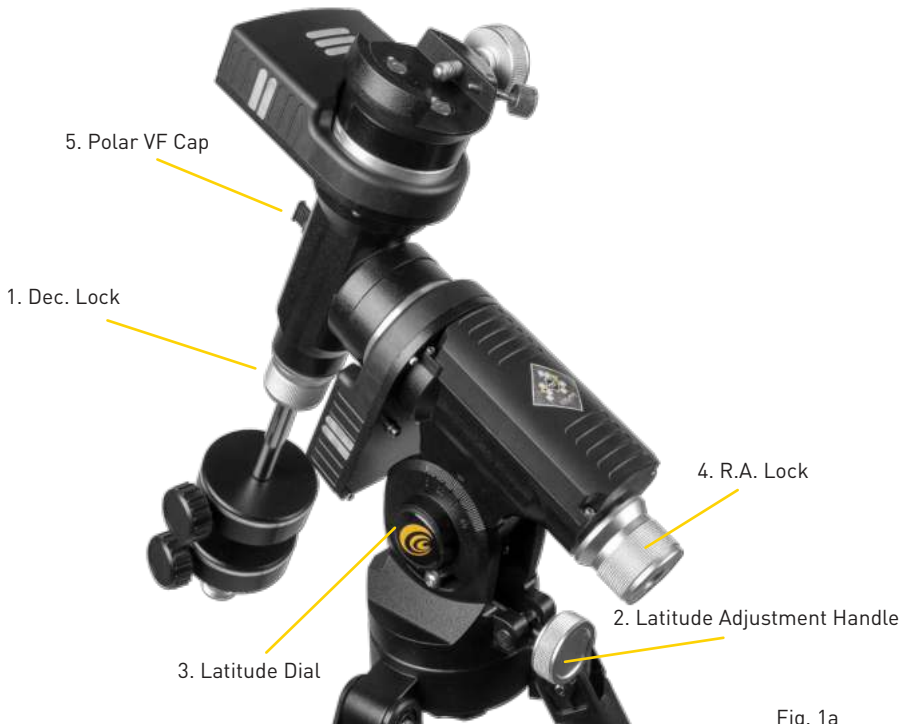

Fig. 1a
- Unlock the R.A. Lock [4, Fig. 1a] Rotate the Optical Tube Assembly until the counterweight shaft is pointing straight down over the mount.
- If you have not already done so, lift the telescope assembly and turn it so that the tripod leg beneath the counterweight rod faces approximately North (South in the Southern Hemisphere). Release the Dec. lock [1, Fig. 1a] of the tripod, so that the optical tube may be rotated. Rotate the optical tube until it points North (or South in the Southern Hemisphere). Then re-tighten the lock. Locate Polaris, the North Star, if necessary, to use as an accurate reference for due North (or Octantis in the Southern Hemisphere).
- If you have not already done so, determine the latitude of your observing location. Visit the [LATITUDE AND LONGITUDE TOOL](http://explorescientific.com/latitude_longitude/) at [explorescientific.com/latitude\\_longitude/](http://explorescientific.com/latitude_longitude/) to find latitudes of any place on Earth. Once you have found your observing location, use the Latitude Adjustment Handle [2, Fig. 1a] to tilt the telescope mount so that the pointer indicates the correct latitude of your viewing location on the latitude dial [3, Fig. 1a].